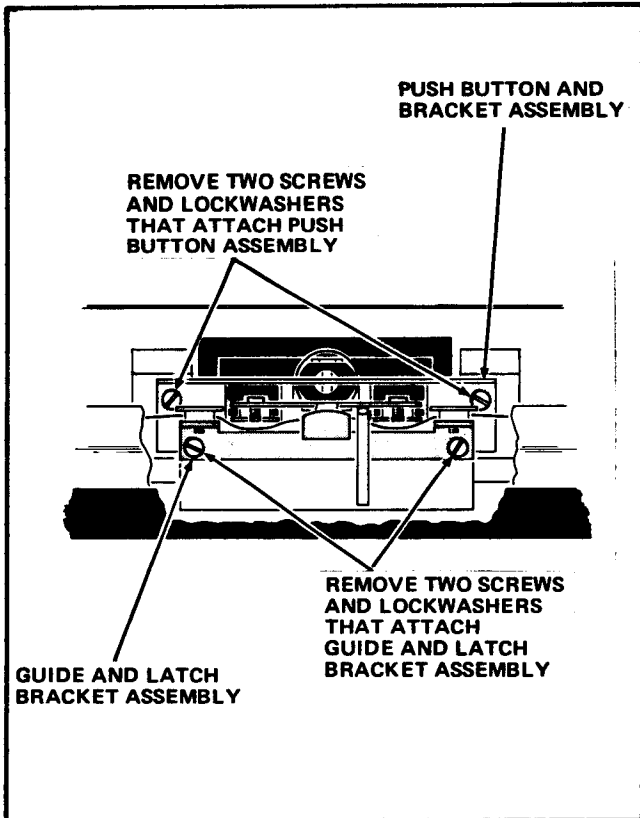

FIGURE 13
2. Remove the 2 Screws and Lockwashers which attach the Push Button Assembly being removed. See Figure 13.
3. Remove the 2 Screws and Lockwashers which attach the Guide and Latch Bracket Assembly to the Push Button and Bracket Assembly and remove the Push Button and Bracket Assembly from the Channel. See Figure 13.